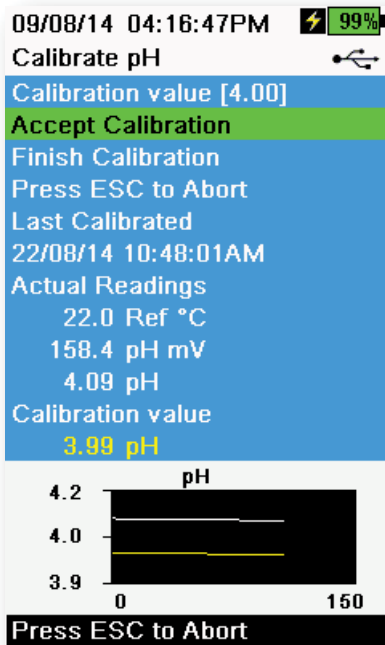

Figure 51 Calibrate pH 2- or 3-point
7. Observe the actual measurement readings for stability (white line on graph shows no significant change for 40 seconds), then select **Accept Calibration** (Figure 51). "Ready for cal point 3" will be displayed in the message area.